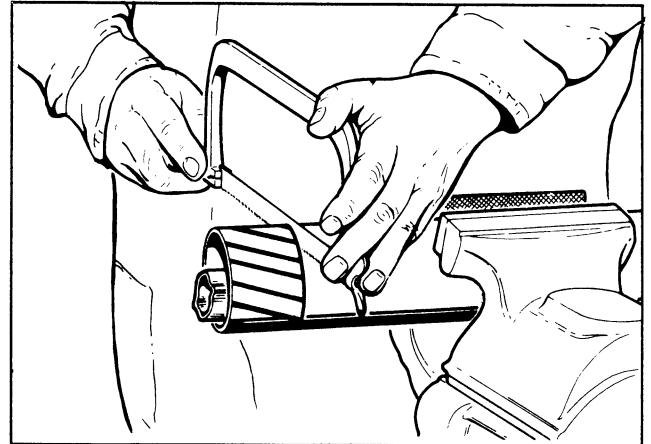

Figure 17
8. Clamp the driveline in a well padded vice to prevent damage to the shield. Cut off the shield where it was marked in step 6 as shown in Figure 17.